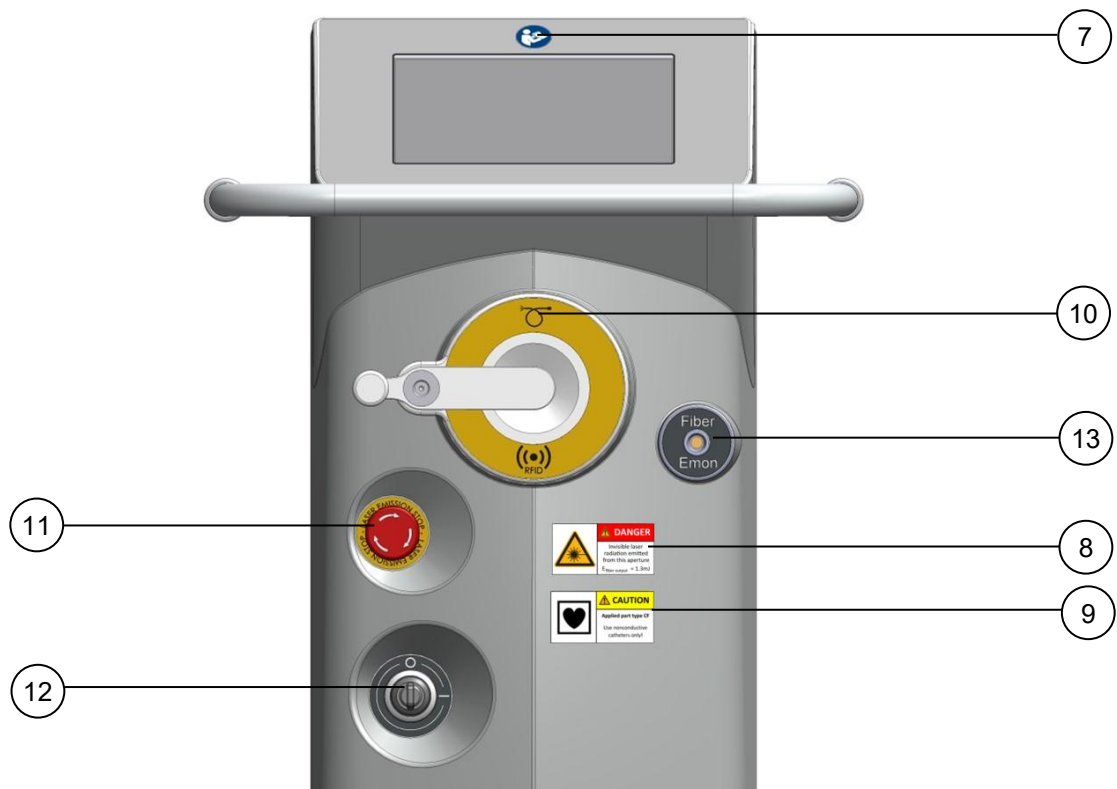

Fig. 2-2: Frontside view
7.	<p>Follow instructions for use.</p> <p>The label is located on the front side of the laser above the touch panel (see Fig. 2-2).</p>
8.	<p>The laser warning identification sign warns about the emission of laser radiation at this position.</p> <p>The label is located on the front side of the laser close to the laser beam aperture (see Fig. 2-2).</p>
The label can be found under the corresponding connection on the front panel (see Fig. 2-2).
10.	<p>Connection of the fiber.</p> <p>The label can be found above the corresponding connection on the front panel (see Fig. 2-2).</p> <p> Symbol for radio-frequency identification.</p> <p> Optical fibre applicator</p>
11.	<p>Identification of the laser emission stop.</p> <p>The label is located on the front side of the laser (see Fig. 2-2).</p>
12.	<p>Position display for the key switch.</p> <p>O = "OFF"</p> <p>I = "ON"</p> <p>The label is located on the front side of the laser (see Fig. 2-2).</p>
13.	<p>Energy monitor for the fiber.</p> <p>The label is located on the front side of the laser (see Fig. 2-2).</p>